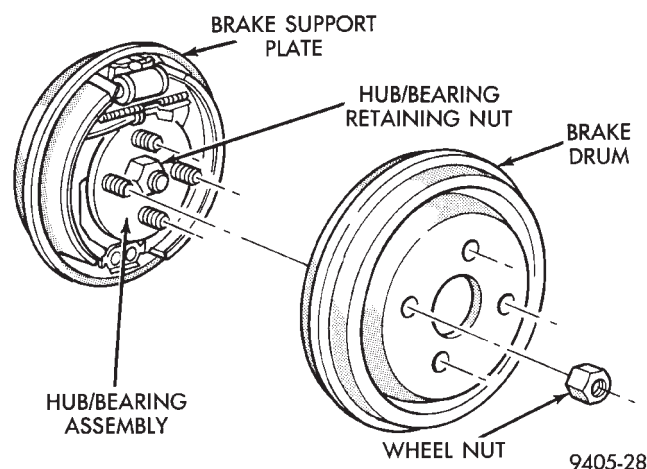

Fig. 58 Brake Drum And Hub And Bearing Assembly
(3) Remove rear brake drum from the rear hub and bearing assembly (Fig. 58).